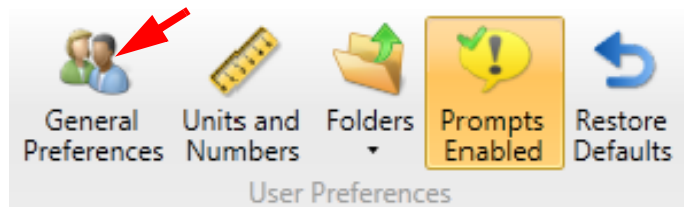

Figure 6-10: Preferences Tab
- 2 Click the **Preferences** tab on the Ribbon (see Figure 6-10).